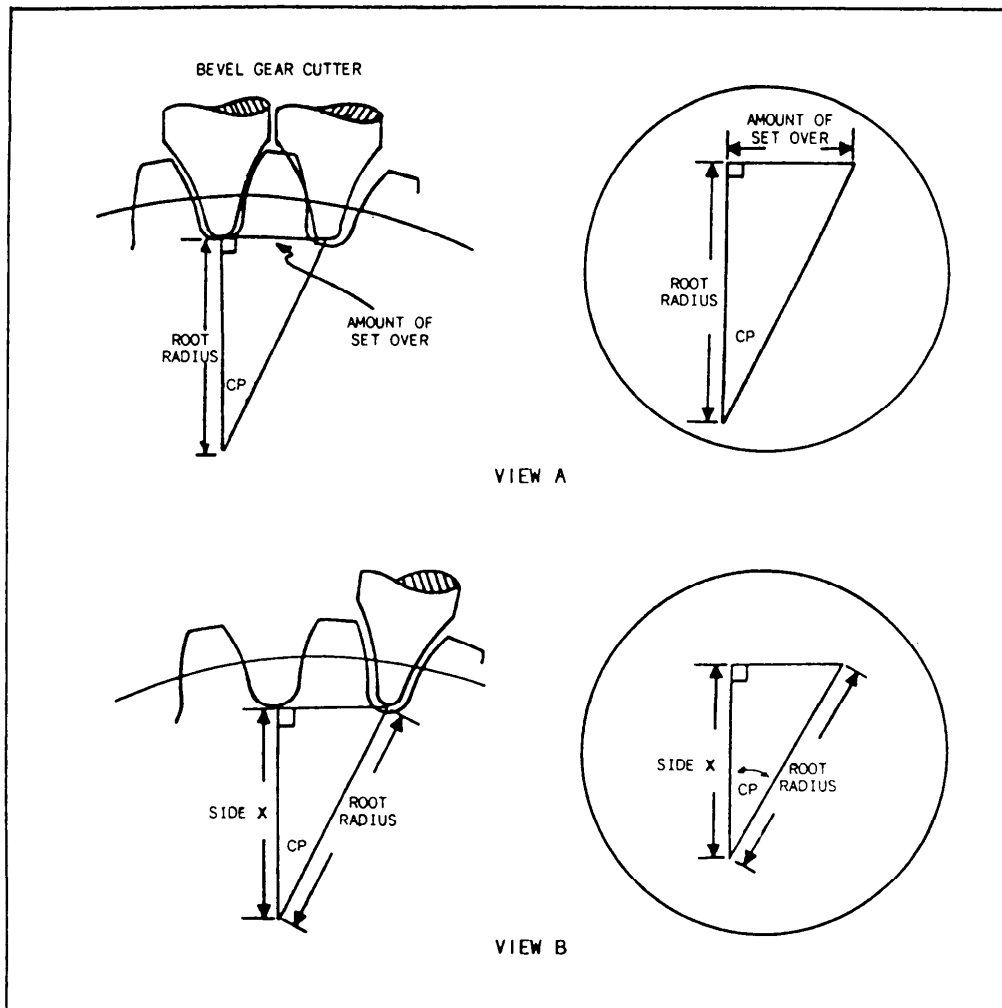

Figure 14-26.—Development of setover and depth increase.
To find the amount of setover, first establish the circular pitch angle (\angle_{CP}). One circular pitch equals 360° . Therefore, you can divide 360° (one circular pitch) by the number of teeth (NT) to find the circular pitch angle (\angle_{CP}). You can solve for the amount of setover by using the triangle in figure 14-26, view A.
To find the amount of depth increase, set up the triangle shown in figure 14-26, view B. In this triangle, side X is equal to the root radius multiplied by the cosine of the circular pitch angle ($\angle CP$).